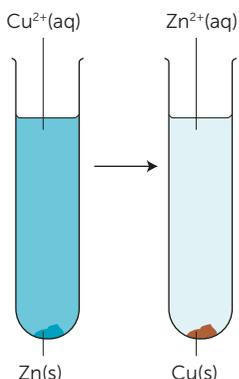

Fig. 7.1 Reaction of zinc with copper(II) sulfate solution.
When solid zinc is added to blue copper(II) sulfate solution, the solution gradually becomes paler and a red-brown solid (copper) is deposited at the bottom of the test-tube. This is shown in Fig. 7.1.